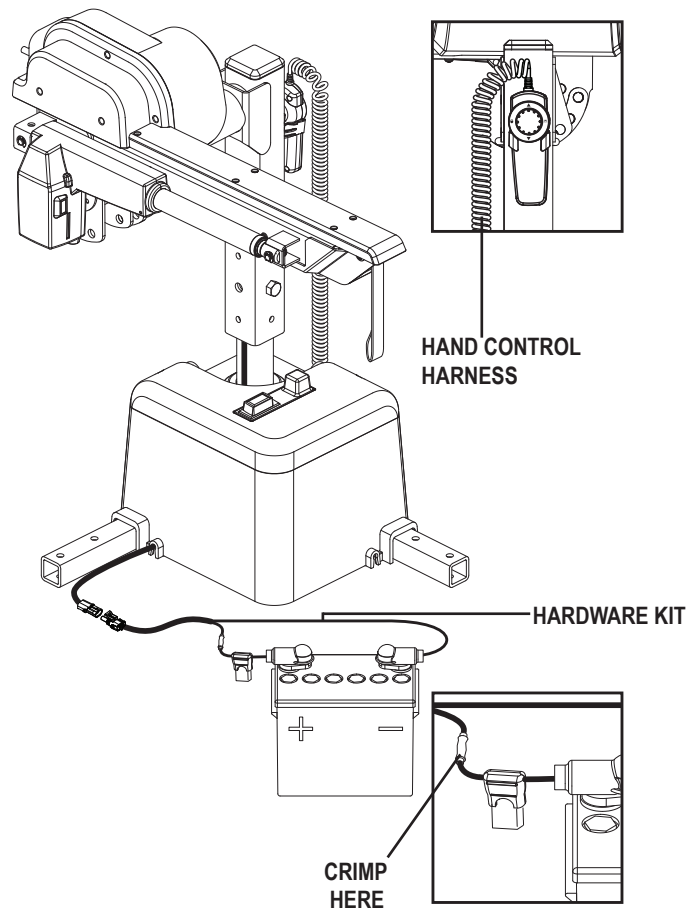

Figure 5. Electrical Wiring Connections
1. Route the hard wire kit (starting at the lift) through the interior of the vehicle until you reach the automobile battery. **See figure 5.** Conceal the wire behind or under the interior panels. Be certain that the wire is protected with a rubber grommet when passing it through the metal panels and into the engine compartment. Inside the engine compartment, secure the wire to the firewall and the inner fender with the supplied plastic wire ties. Use care not to cause abrasions to the power wire. It is important to secure the power wire at various points along its run.